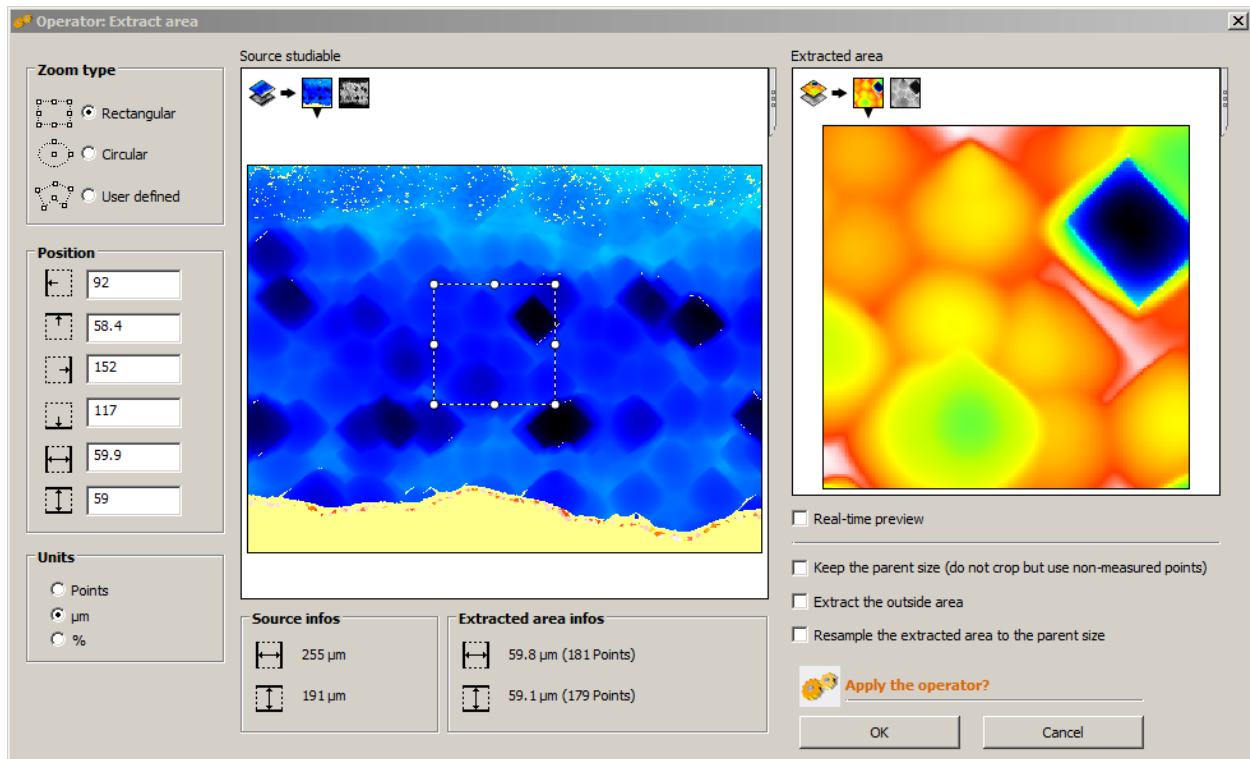

Figure 3: Define an area of interest.
- Define the area of interest and click OK. See **Figure 3**.